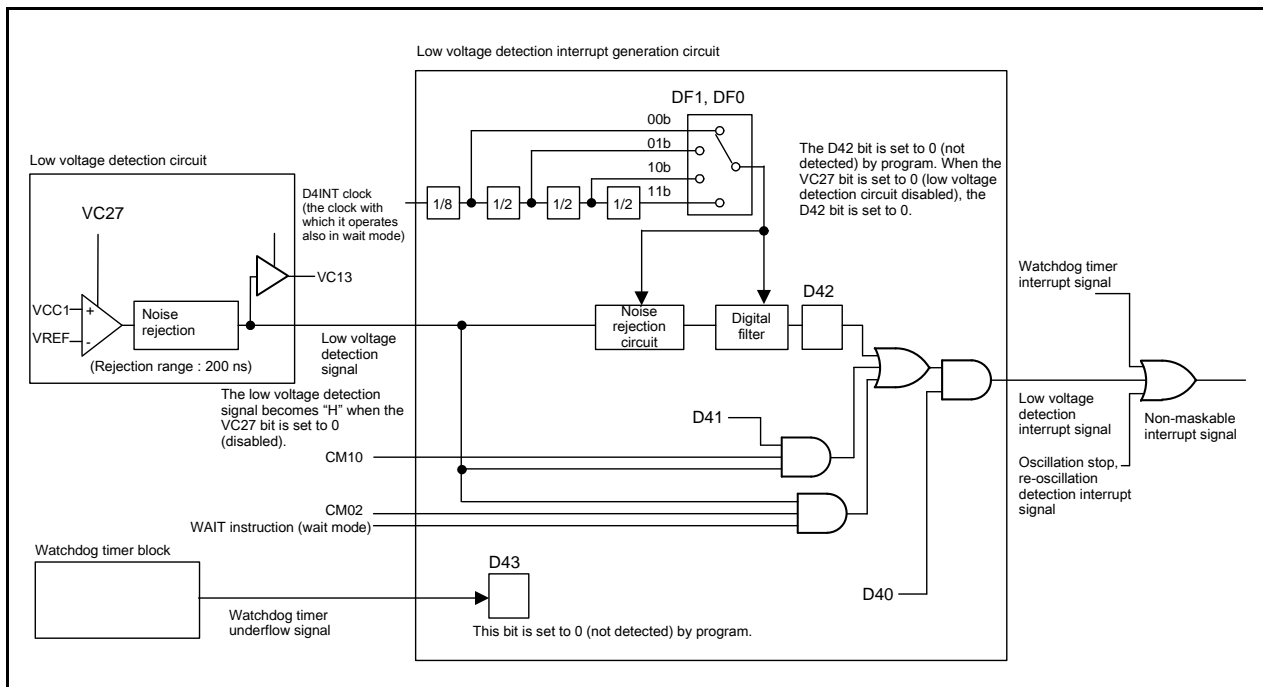
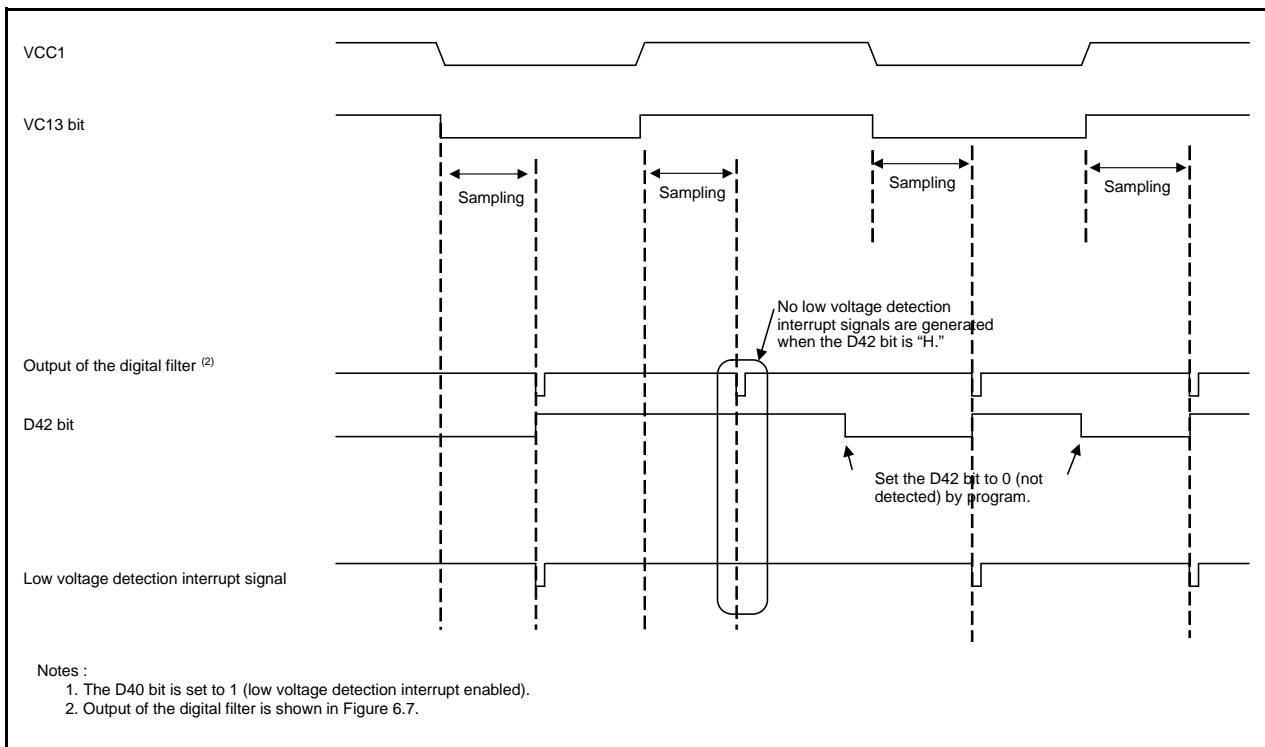

Figure 6.7 Low Voltage detection Interrupt Generation Block Diagram
Figure 6.8 Low Voltage Detection Interrupt Generation Circuit Operation Example
Bits DF1 to DF0 in the D4INT register determine the sampling period that detects the voltage applied to the VCC1 pin reaches Vdet2. Table 6.3 shows the Sampling Periods. Figure 6.7 shows Low Voltage Detection Interrupt Generation Block Diagram, and Figure 6.8 shows a Low Voltage Detection Interrupt Generation Circuit Operation Example
3. An interrupt request for voltage reduction is generated after the value of the VC13 bit changes and a sampling time elapses. See Figure 6.8 "Low Voltage Detection Interrupt Generation Circuit Operation Example" for details.